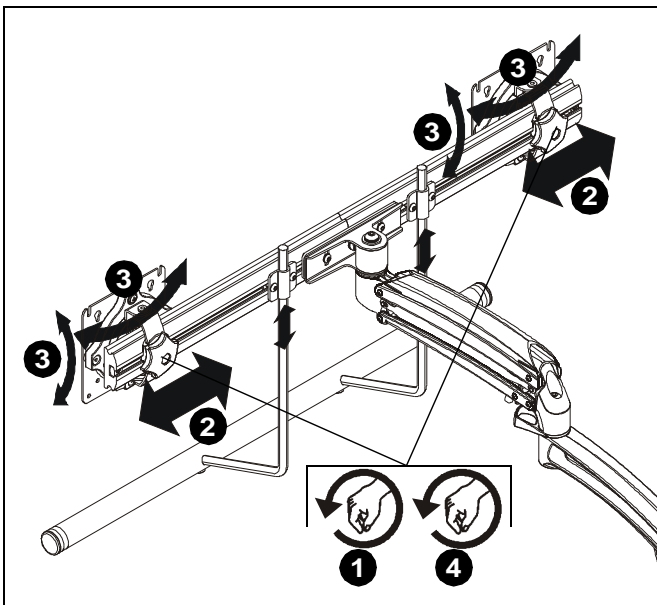

Figure 19
1. Loosen knobs securing faceplates to array. (See Figure 19)
2. Slide displays laterally on array to adjust lateral shift. (See Figure 19)
3. Adjust pitch and pivot position as desired. (See Figure 19)
4. Tighten knobs to secure faceplates in position. (See Figure 19)